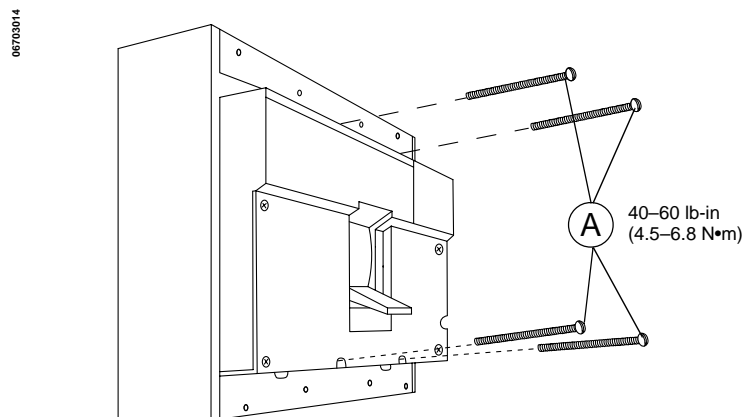

Figure 4: Installing Bus-connected Circuit Breaker
1. Install circuit breaker in accordance with enclosure instructions using mounting screws (A, Fig. 4), provided. All four mounting holes must have mounting screws installed. See Appendix B for mounting hole spacing.